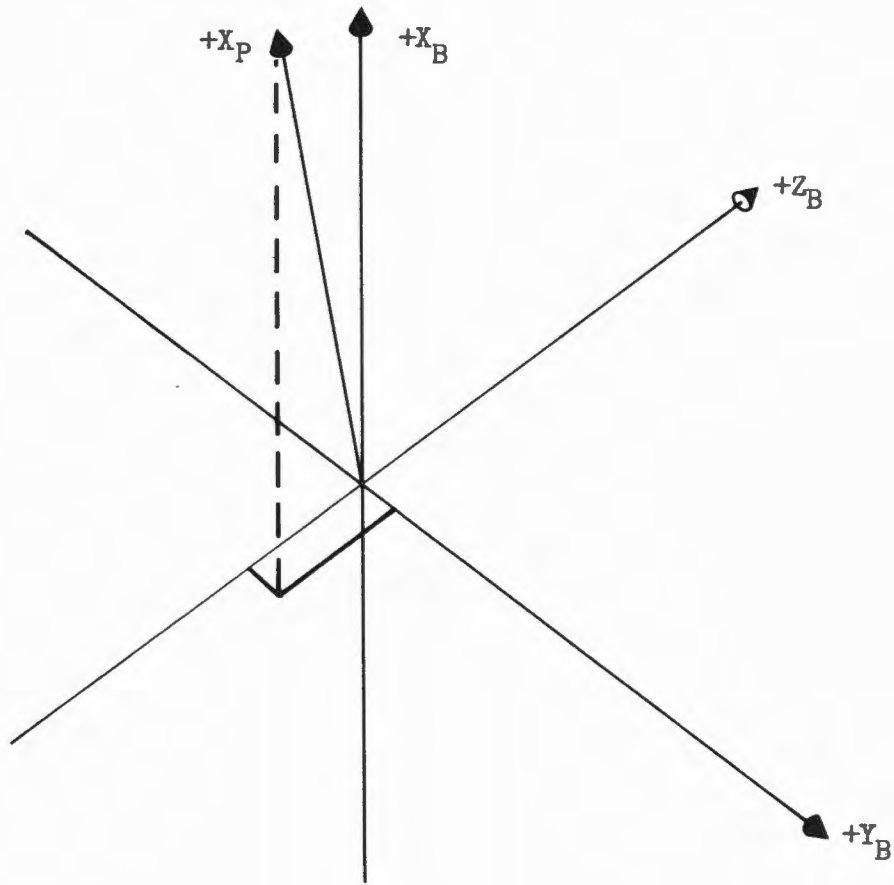

Figure 5-1. Principal X Axis Offset
5.1.2.1.2 The principal X axis (X_p) of the vehicle has been calculated as approximately 1.8 degrees offset from the vehicle X axis (X_B). Although the transforms are available, the differences between body rates and rates about the principal axes are so slight that the rates will be assumed to be equal. The actual offset of the principal axis is into the +Y and -Z directions at a ratio of roughly 1 - 3, see Figure 5-1.